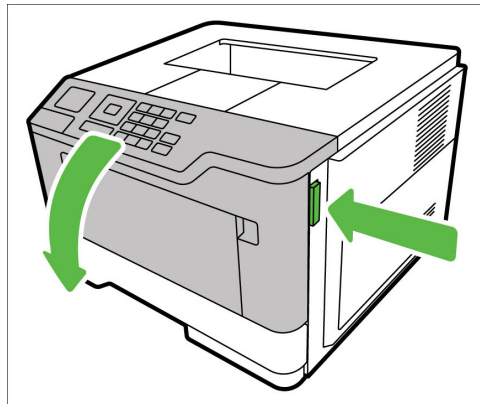

Figure 6-42. Opening Lexmark printer door
- a. Press the black rectangular button on the right side of the printer to open the printer door (Figure 6-42).